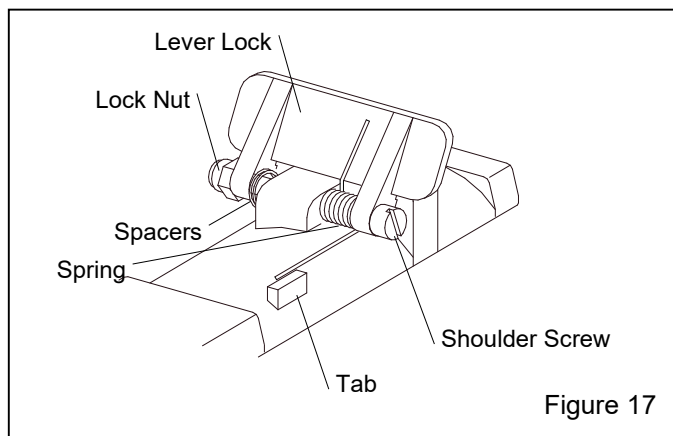

Figure 17
6.6.2 Lever lock replacement – Figure 17
6.6.2.1 Remove the lock nut from the shoulder screw. Before removing the screw, note the positions of the spacers and spring, as shown in Figure 17. The bent end of the spring is toward the inside, forcing the lever lock up. The straight end is toward the outside, facing down and against the tab.